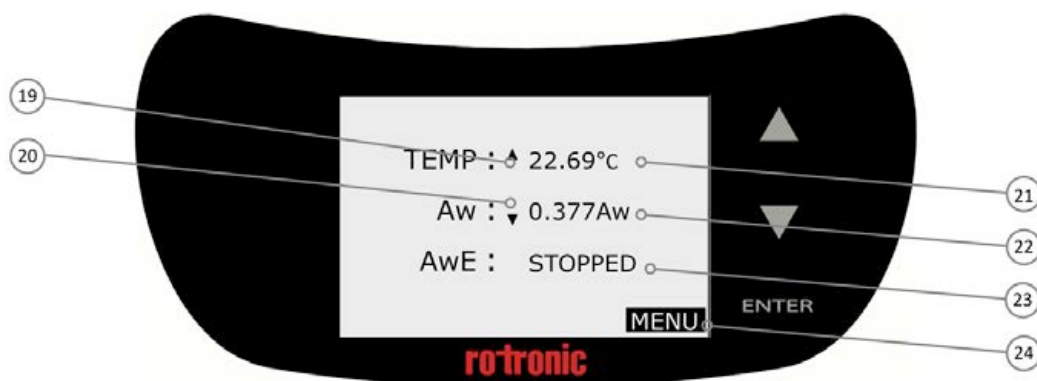

Figure 3-2 AwTherm Top Level Screen
5. The controller will power up and display the Top Level screen (as shown in Figure 3-2).